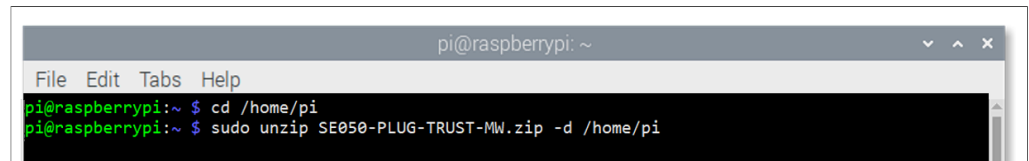

Figure 12. Unzip the Plug & Trust middleware folder
2. Open a Terminal window and follow the next steps as shown in Figure 12: